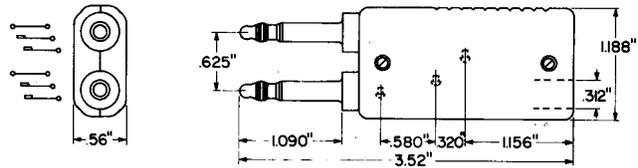

Fig. 4—428A Plug
2.04 **428A:** The 428A (Fig. 4) is a twin, 3-conductor plug with a shell of black insulating material. The 428A plug is designed to be used with the 246- or similar-type jacks and is used in testing register sender and sender link circuits.